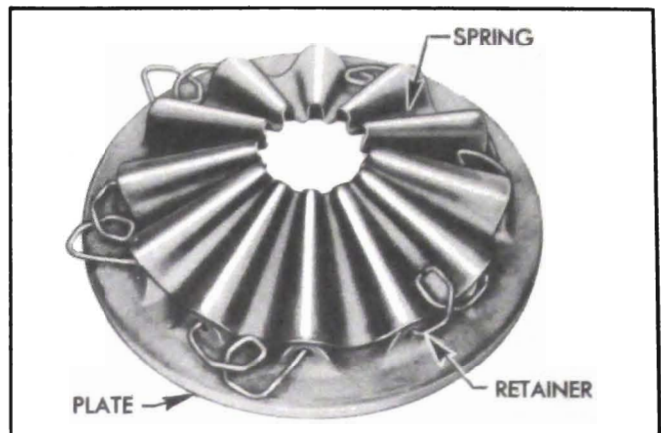

Figure 4-11—Assembling Pressure Plate, Clutch Spring and Retainers
3. Lift off clutch cover, then unhook all spring retainers from clutch spring by working one leg of retainer toward center of spring and the other leg away from center. See figure 4-11.
3. Place clutch spring on pressure plate *with marks made at disassembly in alignment*, then push spring retainers up over the spring. See figure 4-11.